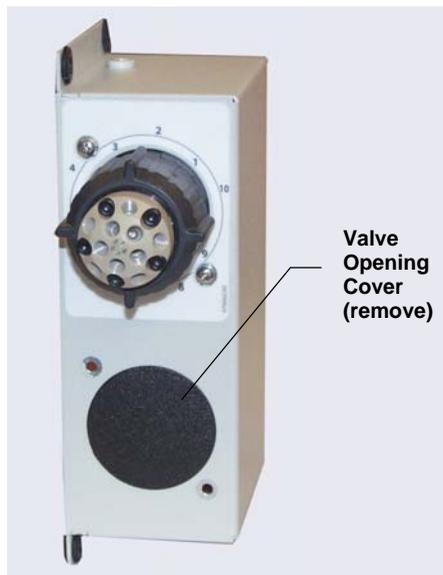

Figure C-12. Mounting Bracket with Valve Opening Cover
1. Remove the black cover from the valve opening on the mounting bracket (see Figure C-12) by pushing from the rear of the bracket.